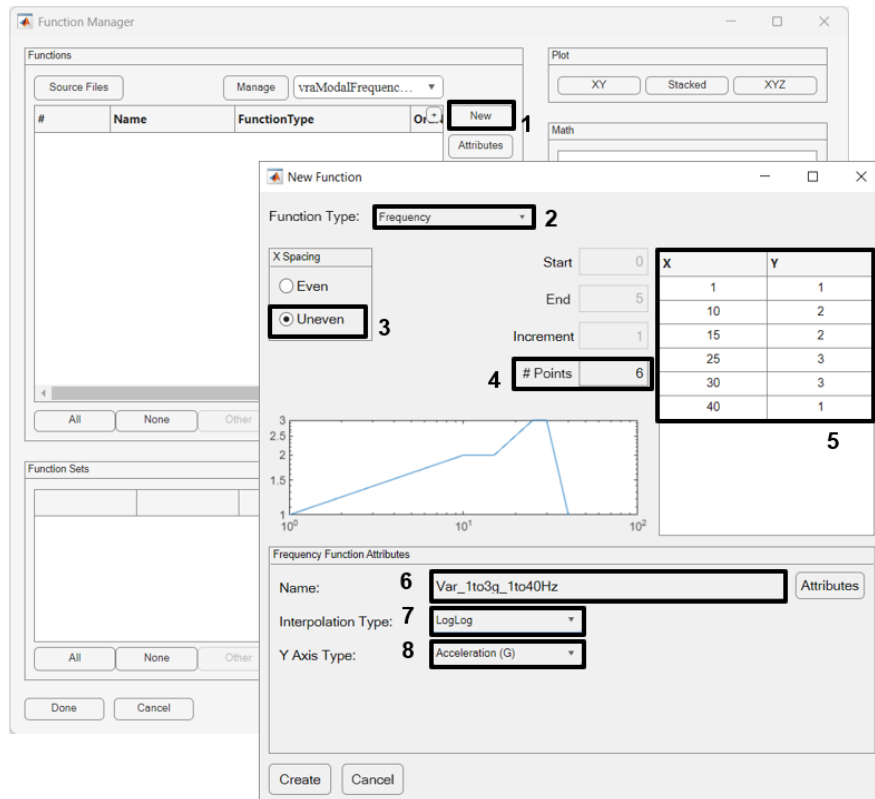

Figure 4-39. Create the acceleration PSD that will be used to excite the Isat.
2. In the Function Manager, click **New** to bring up the *New Function* dialog. As shown in Figure 4-39, set the *Function Type* to *PSD*, the *X Spacing* to *Uneven*, and the number